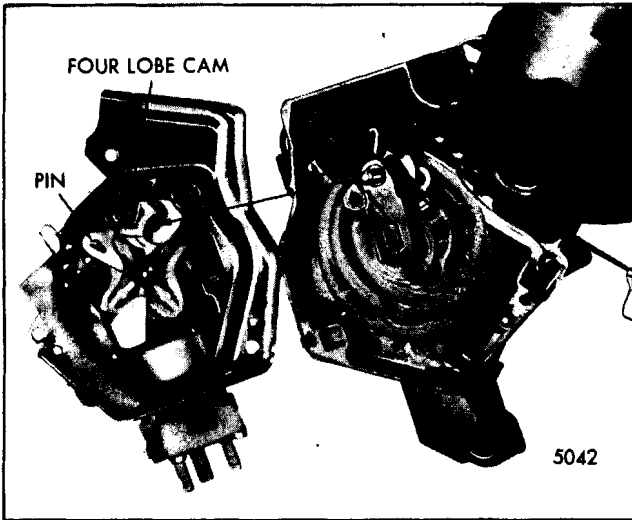

Fig. 2-79-Aligning Pump to Motor
14. Rotate the 4-lobe cam so the index hole is aligned with the hole in the pump mounting plate. Insert a .120" to .125" diameter pin through both holes so the drive slot in the cam will be in the proper position for the drive pin (Fig. 2-79).